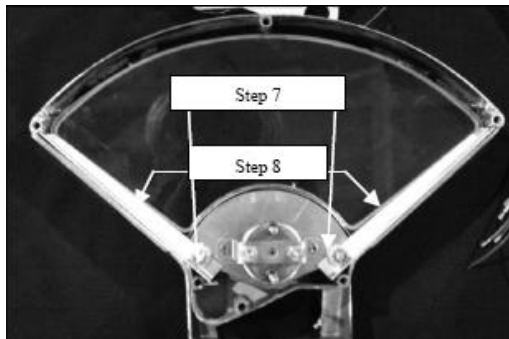

Figure 9
Step 7: Stack nylon washers over the mounting holes of the gear selector movement to make glass bracket level with glass. (Figure 9)
Step 8: Place glass brackets on each side of the bracket, making sure to push into the corners completely. Screw down with (2) 8-32 x 1/2" screws and star washers. (Figure 9 & 10)